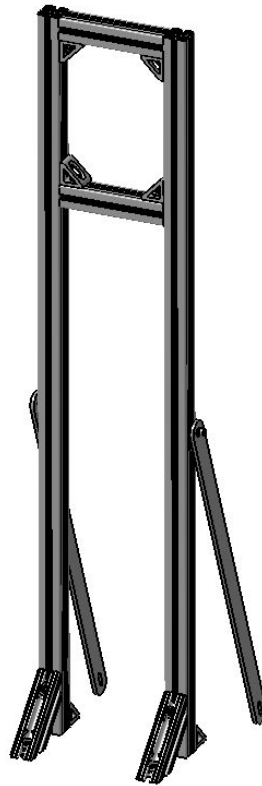

Fig. 4.13: Vertical part of the stand with two support rods
- ❑ Repeat the last step on each T-slotted single beam 4' (#HJXQ), as shown in Fig. 4.13.